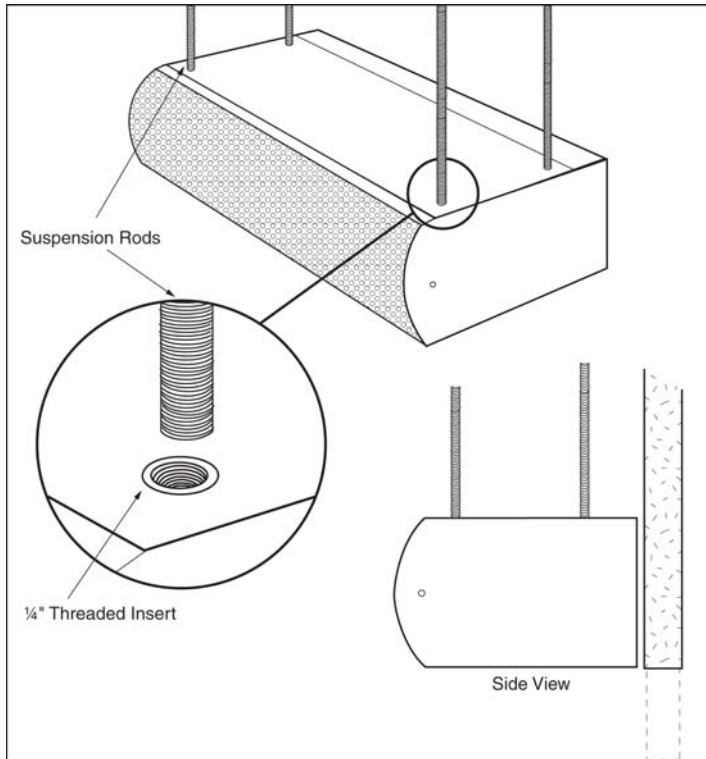

FIGURE 6 - Suspended Mounting
- B. Four (4) factory installed 1/4" threaded inserts are located on the top of the unit for top suspension mounting; on units comprised of modules use the outer threaded inserts. To eliminate the slight deflection of longer units, the inner threaded inserts may also be used. **See Figure 6**